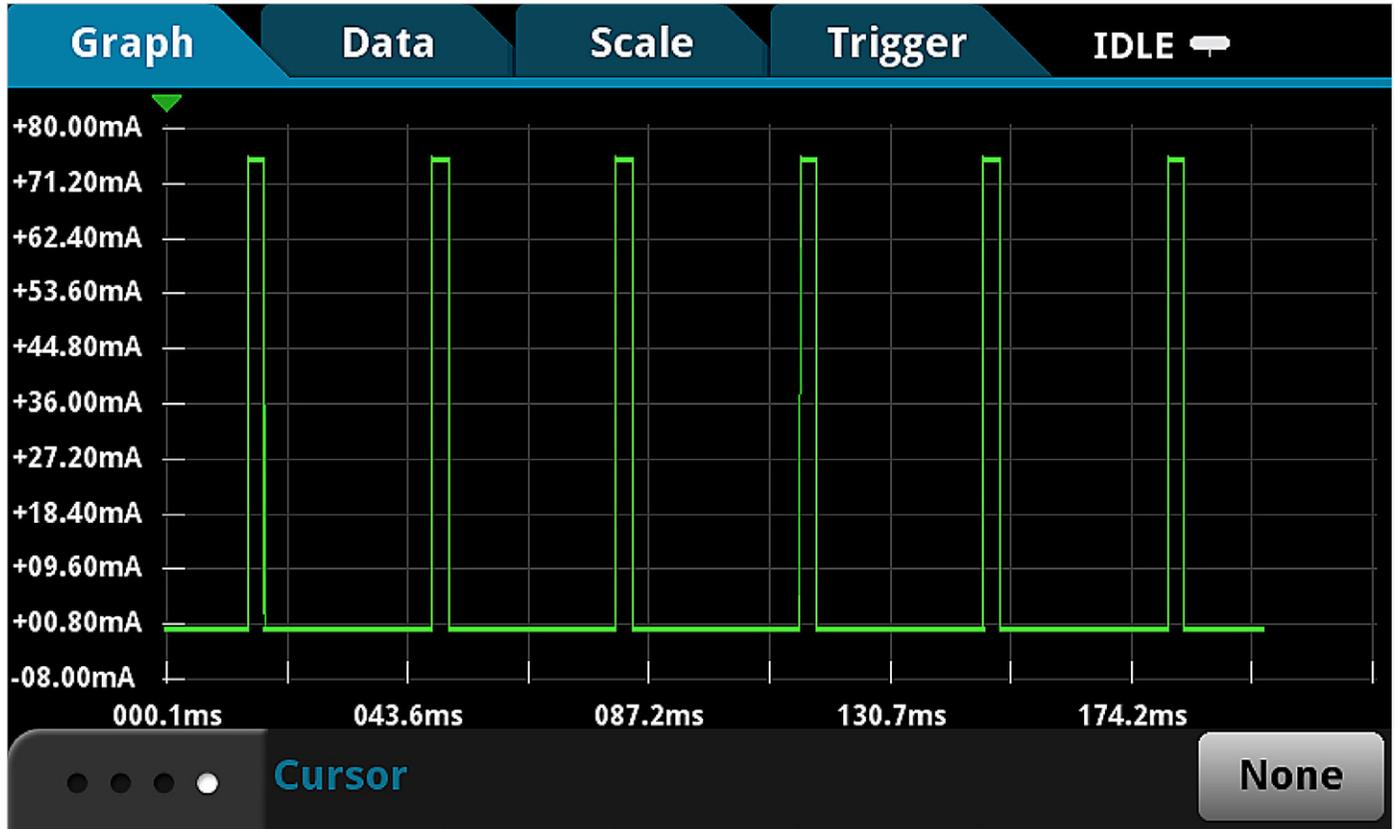

Figure 11. Pulse measurement in digitizing mode.
**Figure 11** shows a series of current pulses captured by the DMM7510 in the current digitizing mode. The multi-touch touchscreen even allows zooming into each pulse with the touch of a fingertip.